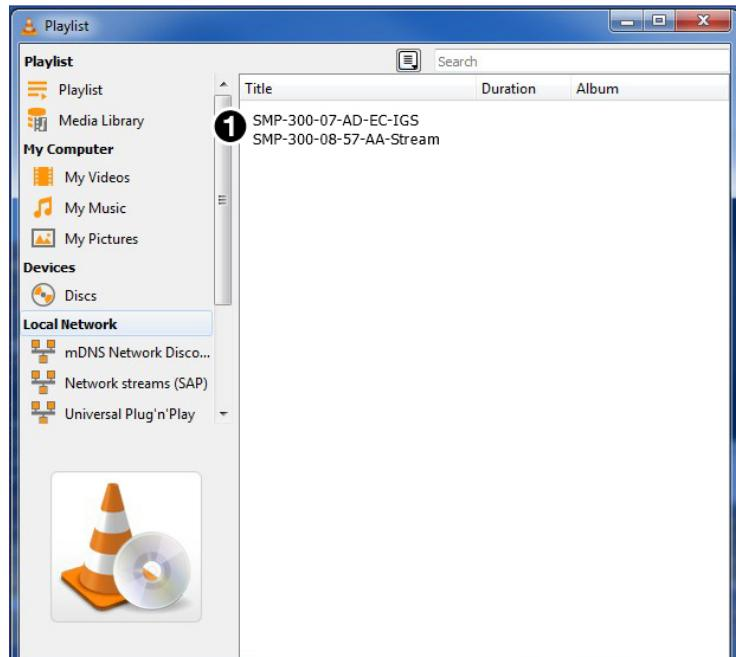

Figure 105. VLC - Select a Stream
4. VLC populates the playlist with all streams that contain SAP information. If a folder is shown, open it to view the SAP streams inside (see figure 105, ①).